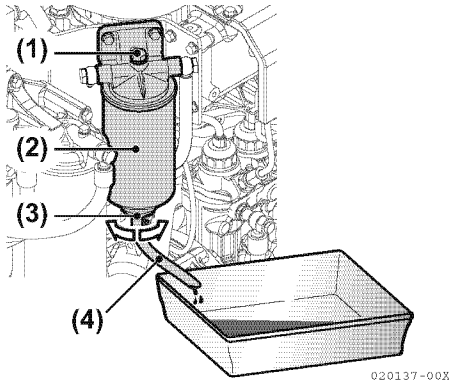

Figure 7
Note: If no water or fuel drains from the fuel / water separator (**Figure 7, (2)**), loosen the air bleed screw (**Figure 7, (1)**) on the fuel filter 2 to 3 times. This can occur when the fuel level is lower than the position of the fuel / water separator.
3. Attach a tube (**Figure 7, (4)**) to the drain plug (**Figure 7, (3)**).